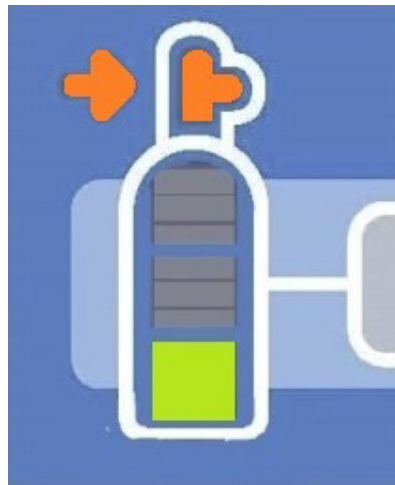

FIGURE 7: LOW PRESSURE INDICATOR
- If the Low-Pressure indicator, as seen in Figure 7, the top portion of the indicator will illuminate amber, indicating that the ACM is not detecting proper cylinder pressure. Check to ensure that the gas cylinder valve is open fully and that the connected cylinder is not empty.